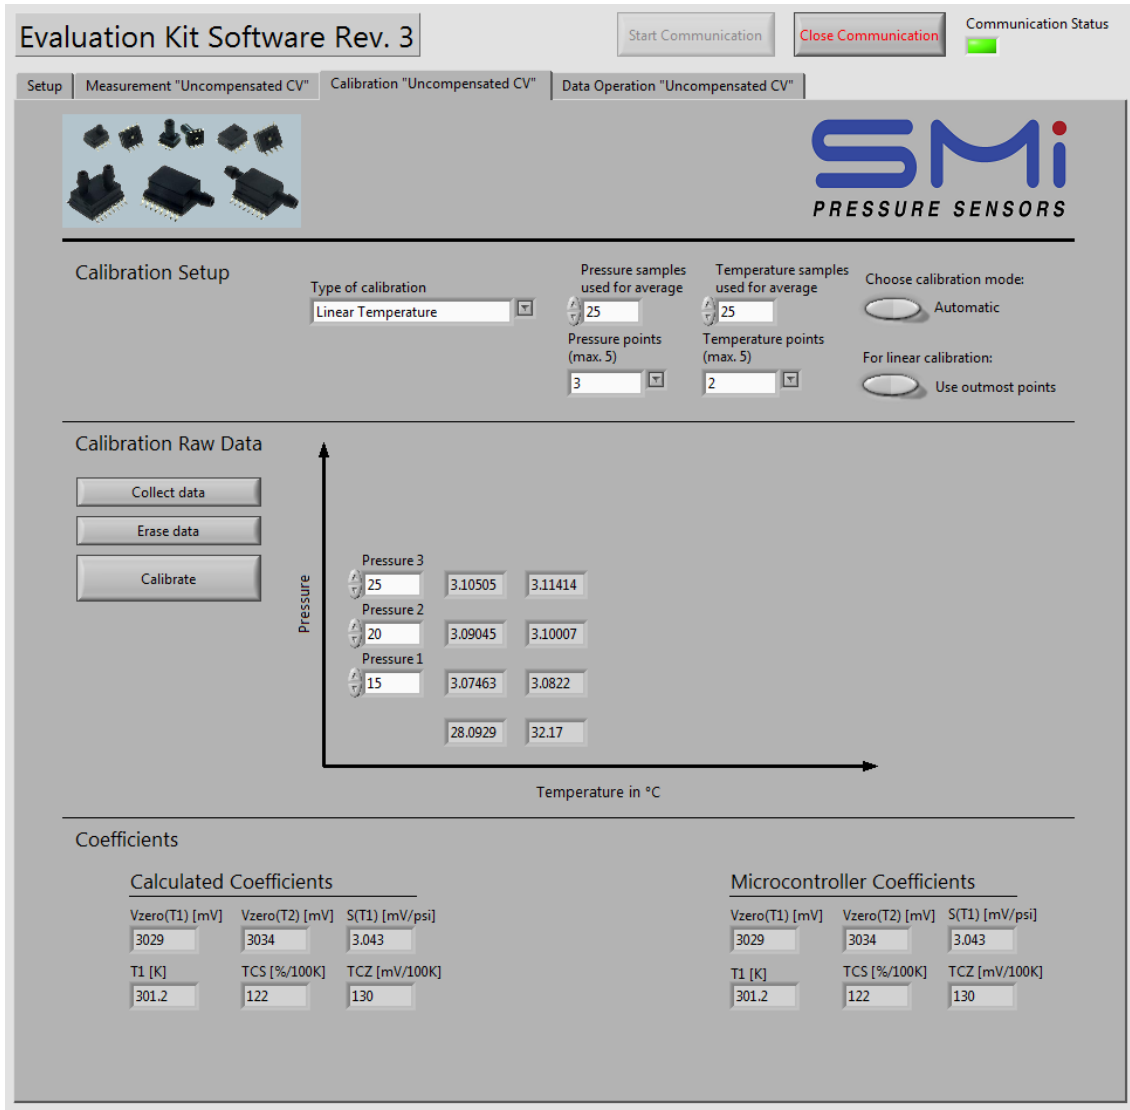

Figure 15: Calibration page of the constant voltage mode (automatic calibration mode)
1. To start the measurement, press the *Collect data* button in the Calibration Raw Data section (see Figure 15). When the *Collect data* button is pressed, a *Reached temperature point* button will appear in its place. The indicator for the first temperature point should now show the current temperature in °C.
5. To perform the actual calibration, either the *Automatic* or the *Manual* mode (see Figure 15) can be used. The automatic mode will calculate all coefficients, write them to the microcontroller and then read out the stored values for confirmation. They are to be seen by selecting the corresponding *Type of calibration*. To use it, press the *Calibrate* button while *Automatic* mode is enabled. The calibration is now completed (skip steps 6 – 7).